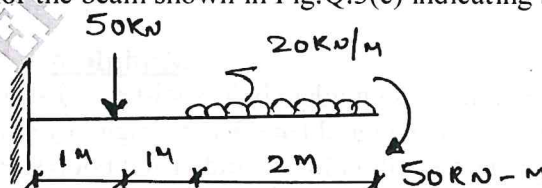

Fig.Q.3(c)
- c. Sketch SFD and BMD for the beam shown in Fig.Q.3(c) indicating salient points.